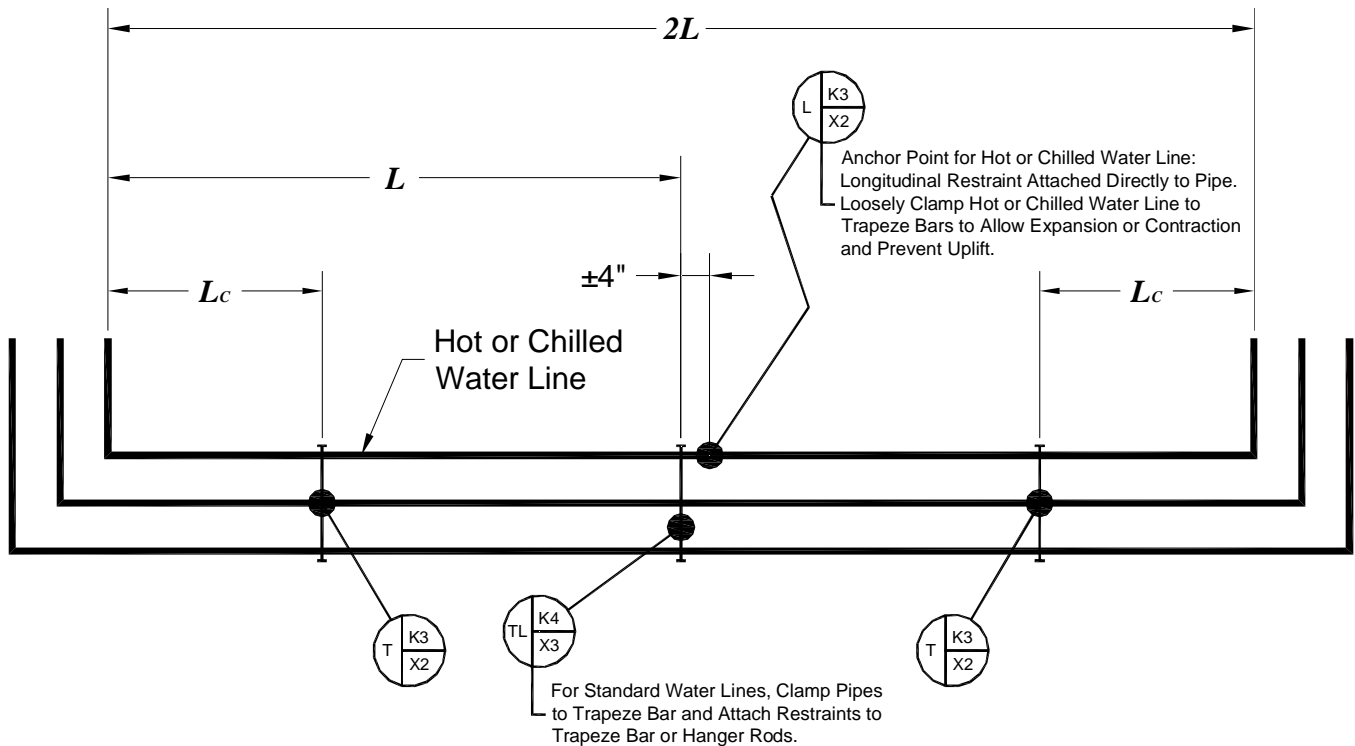

Figure S9-13; Hot or Chilled Water Line Trapeze Supported with Standard Water Lines: Case-2
- ii. If the longitudinal seismic restraint for the hot or chilled water pipe is to be attached, clamped, directly to the hot or chilled water pipe, Case-2 Figure S9-13, it must be located within $\pm 4"$ of the trapeze bar, and uplift control must be provided for the pipe at the trapeze bar to transfer the vertical seismic reactions to the trapeze bar hanger rods. See Sections I3.0 and I6.0 for uplift control schemes for extreme temperature piping.